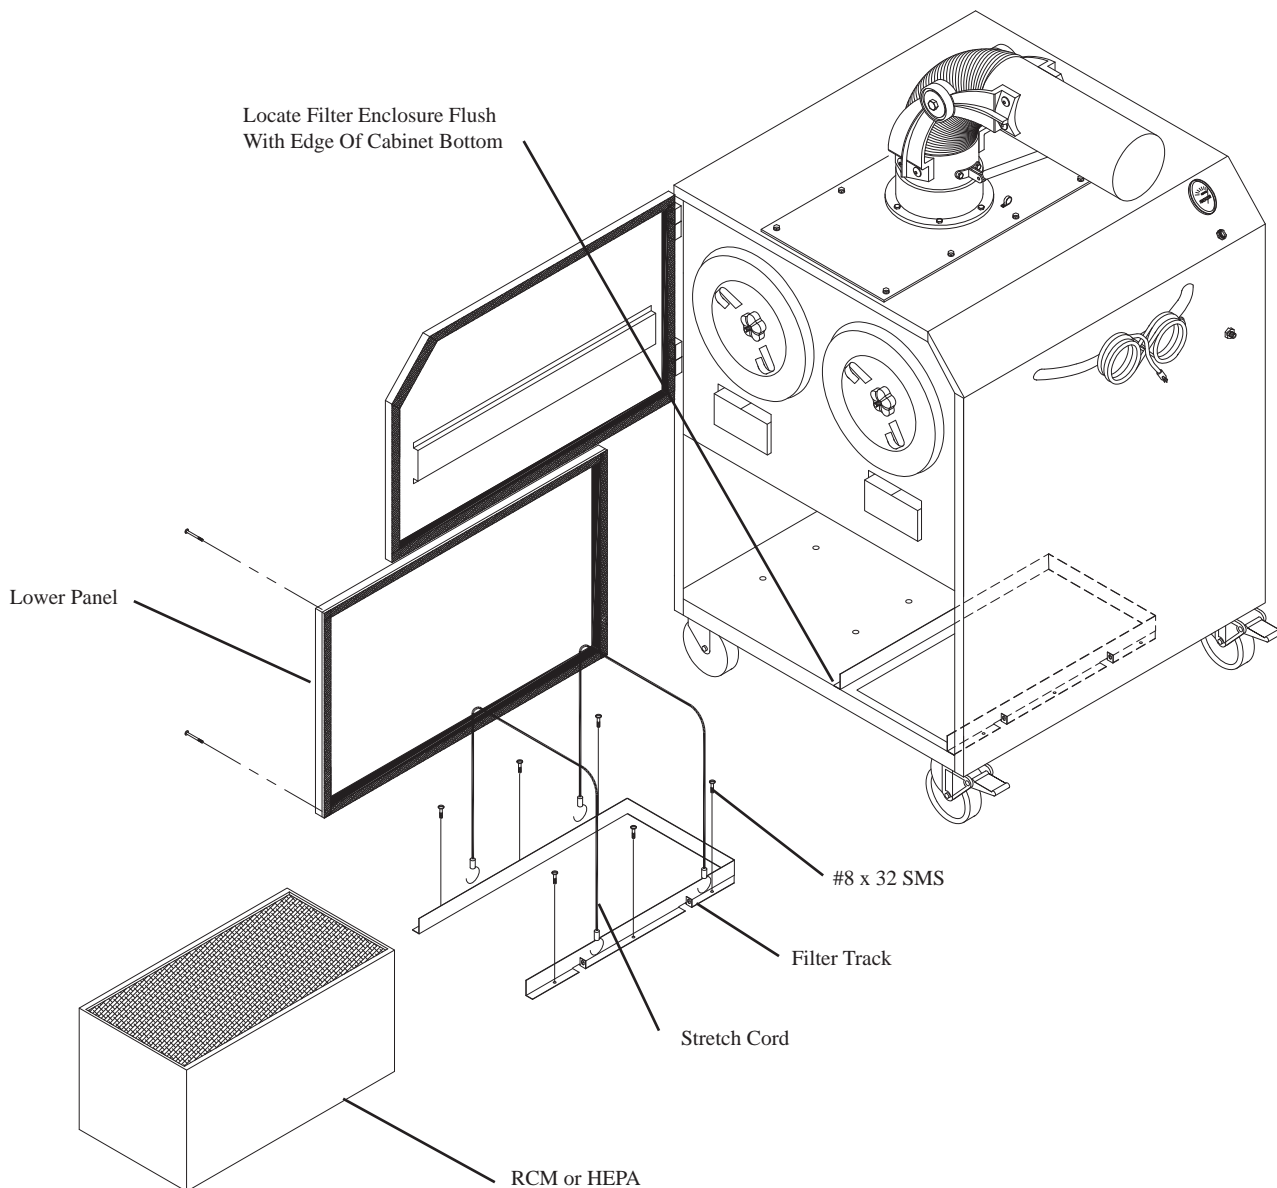

Fig. 2
1. Remove the four (4) screws used to attach the lower panel and remove lower panel from the MC1500.
2. Locate filter tracks shown in Fig. 2. Filter track is to be located flush to front edge of cabinet bottom and centered above the exhaust opening.
4. Secure filter track to the MC1500 using six (6) each #8 x 1/2" sheet metal screws provided.